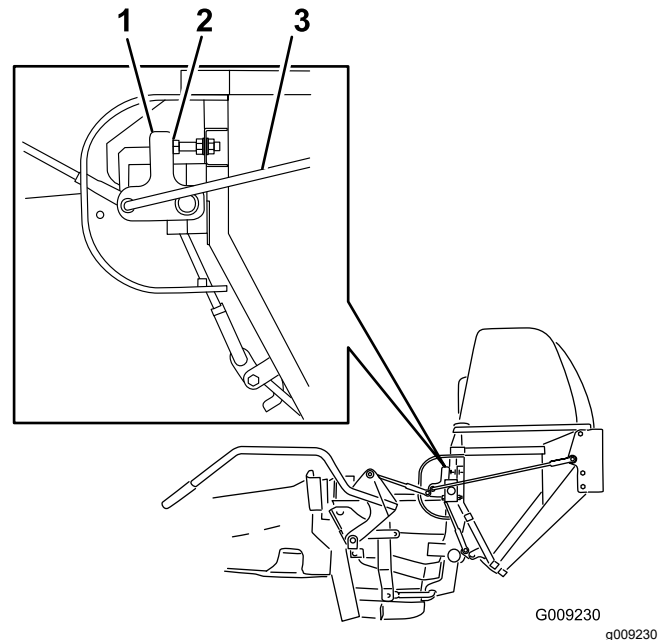

Figure 46
3. With the door closed, loosen the nuts and adjust the stop bolts so that the contact arm is straight up and down (Figure 46).
4. Adjust the length of the hinge links to so that the door completely closes and reasonable force is on the handle (Figure 46).